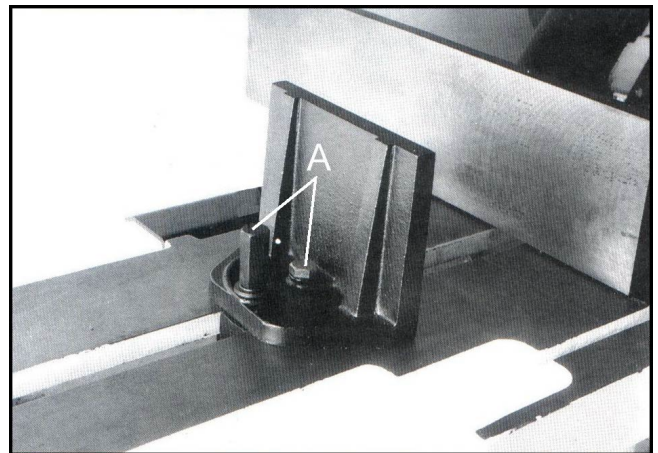

Fig. 16
1. Loosen bolts (A, Fig.16) and move vise jaw to desired angle.